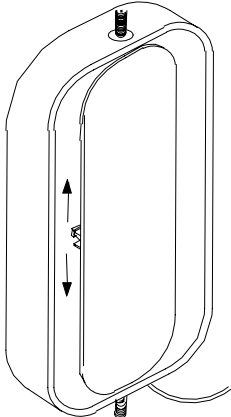

Fig. 3
1. Rotate mirror glass completely to the right. You will see a small lever (tab) on the back of the mirror glass toward the center (see fig. 3). Move this lever downward while holding mirror glass against motor/actuator. The mirror glass should pull easily toward you out of the housing.